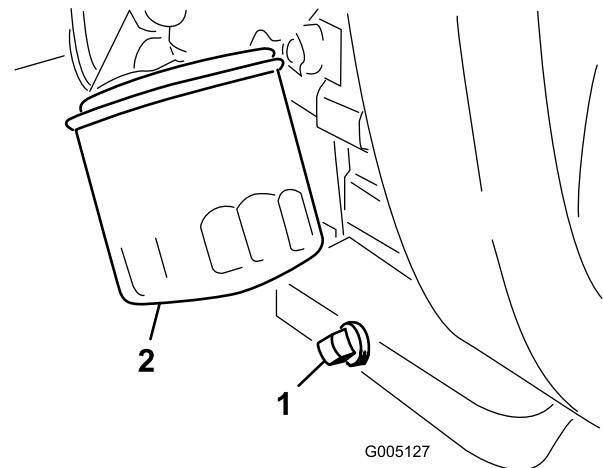

Figure 48
1. Remove the drain plug (Figure 48) and let oil flow into a drain pan. When the oil stops, install the drain plug.
2. Remove the oil filter (Figure 48). Apply a light coat of clean oil to the new filter gasket.